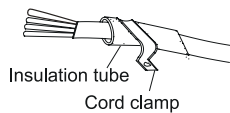

Fig.35
- (3). How to fix connection cord and power cord by cord clamp
- After passing the connection cord fasten it with the cord clamp. (Fig.35